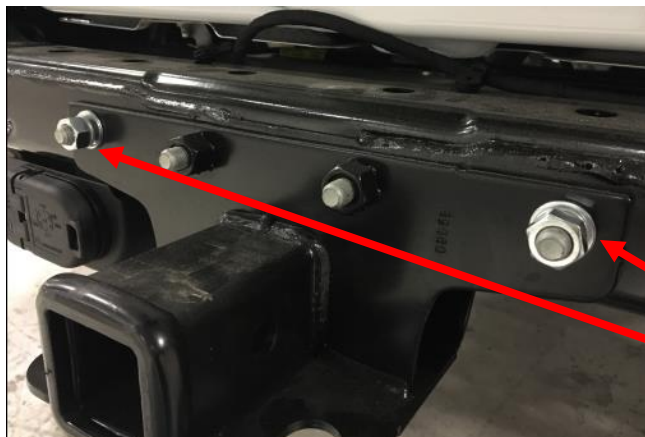

Figure 9
**C. Take the two OEM hitch bolts and attach them to the hitch using the M12 nuts washers and lock washers as shown in figure 9 below.**